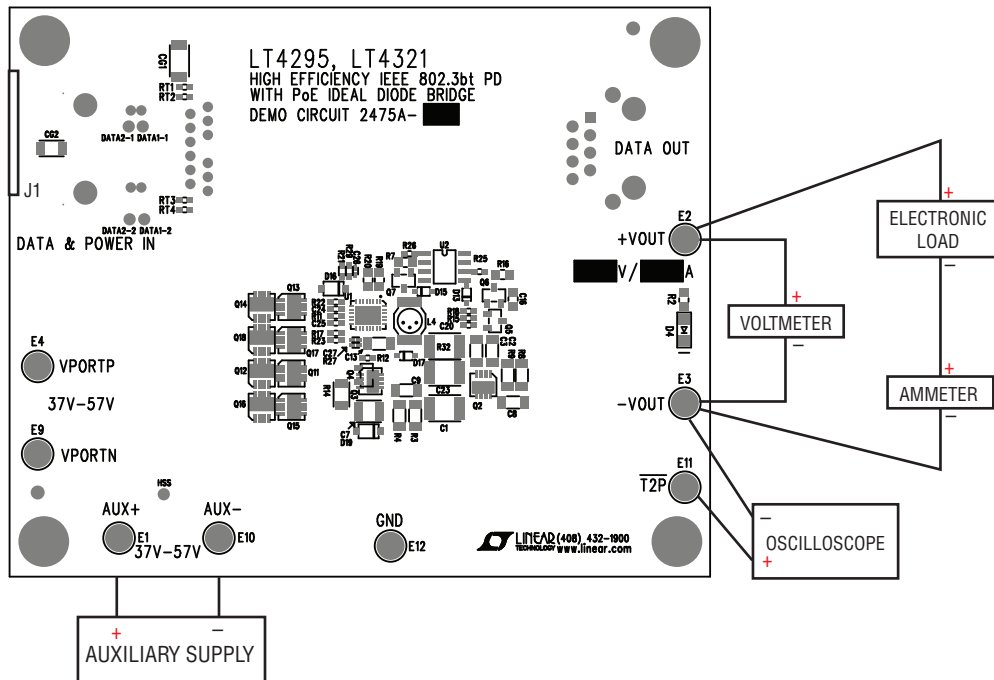

Figure 9: Setup Diagram for Auxiliary Supply Input
1. Place and connect test equipment (voltmeter, ammeter, oscilloscope, and electronic load) as shown in Figure 9.
3. Connect the output of the auxiliary supply to the DC2475A as shown in Figure 9. Turn on the auxiliary supply and set its current limit to 2A. Then increase its output voltage to 48V.
6. Verify $\overline{T2P}$ response with an oscilloscope as shown in Figure 9. The $\overline{T2P}$ response during auxiliary power operation is provided in Table 2.